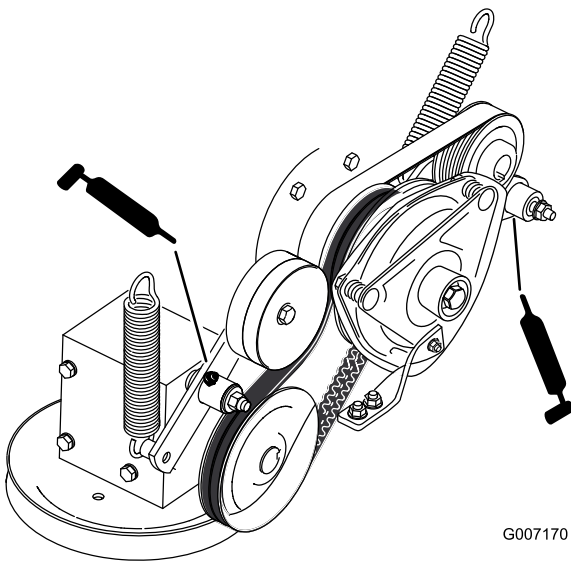

Figure 34
5. Grease the PTO drive belt idler arm (Figure 34).
6. Grease the pump belt idler arm (Figure 34).